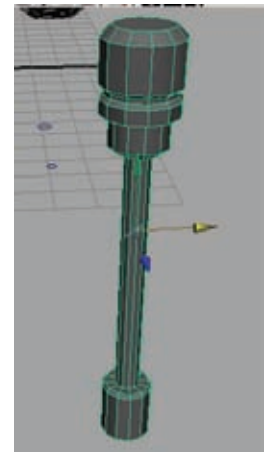

Figure 4.23
1. Create a tall thin cylinder, and decrease its Subdivisions Axis to 12. Select the face on the top and then the bottom of the cylinder, and use a series of extrusions and Bevels to get a result similar to Figure 4.23. This will be the shock absorber frame that will attach the roll cage and wheel together.